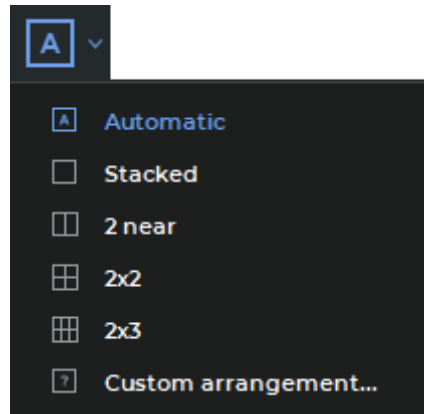

Figure 2.9: Series arrangement menu
1. Click the arrow on the right-hand side of the **Series arrangement** button on the toolbar and select the arrangement mode from the drop-down menu (Fig. 2.9).